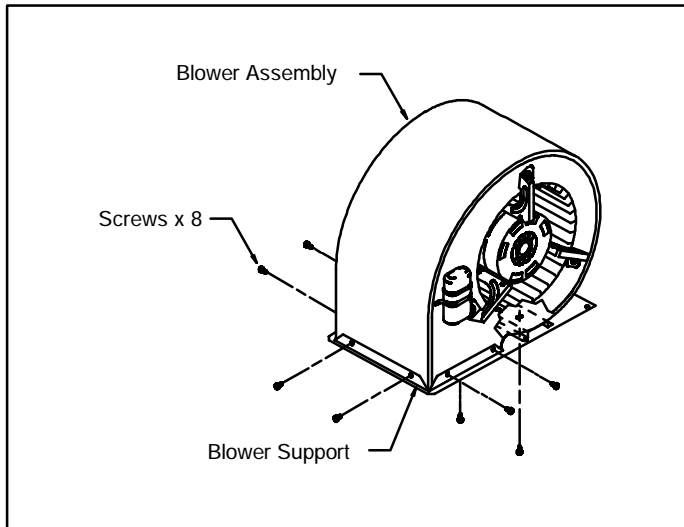

Figure 4 - Blower Assembly Attachment
- Attach blower support to the blower assembly with the eight (8) sheetmetal screws provided in this conversion package. (See Figure 4.)